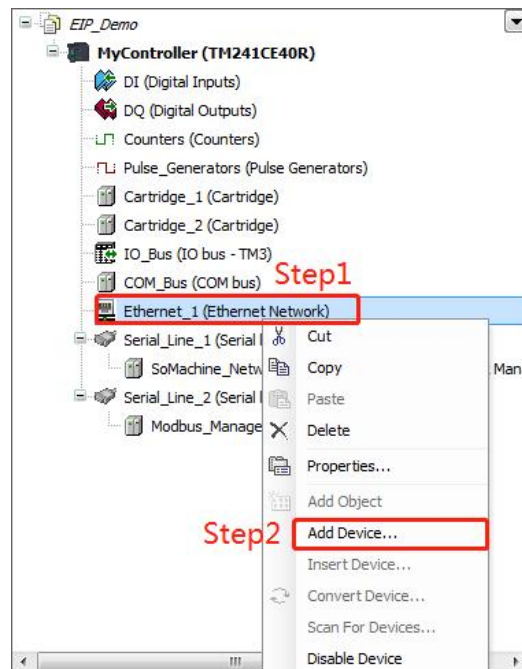

Figure 5-3-8
- As shown in Figure 5-3-8, right-click on Ethernet and click Add Device.